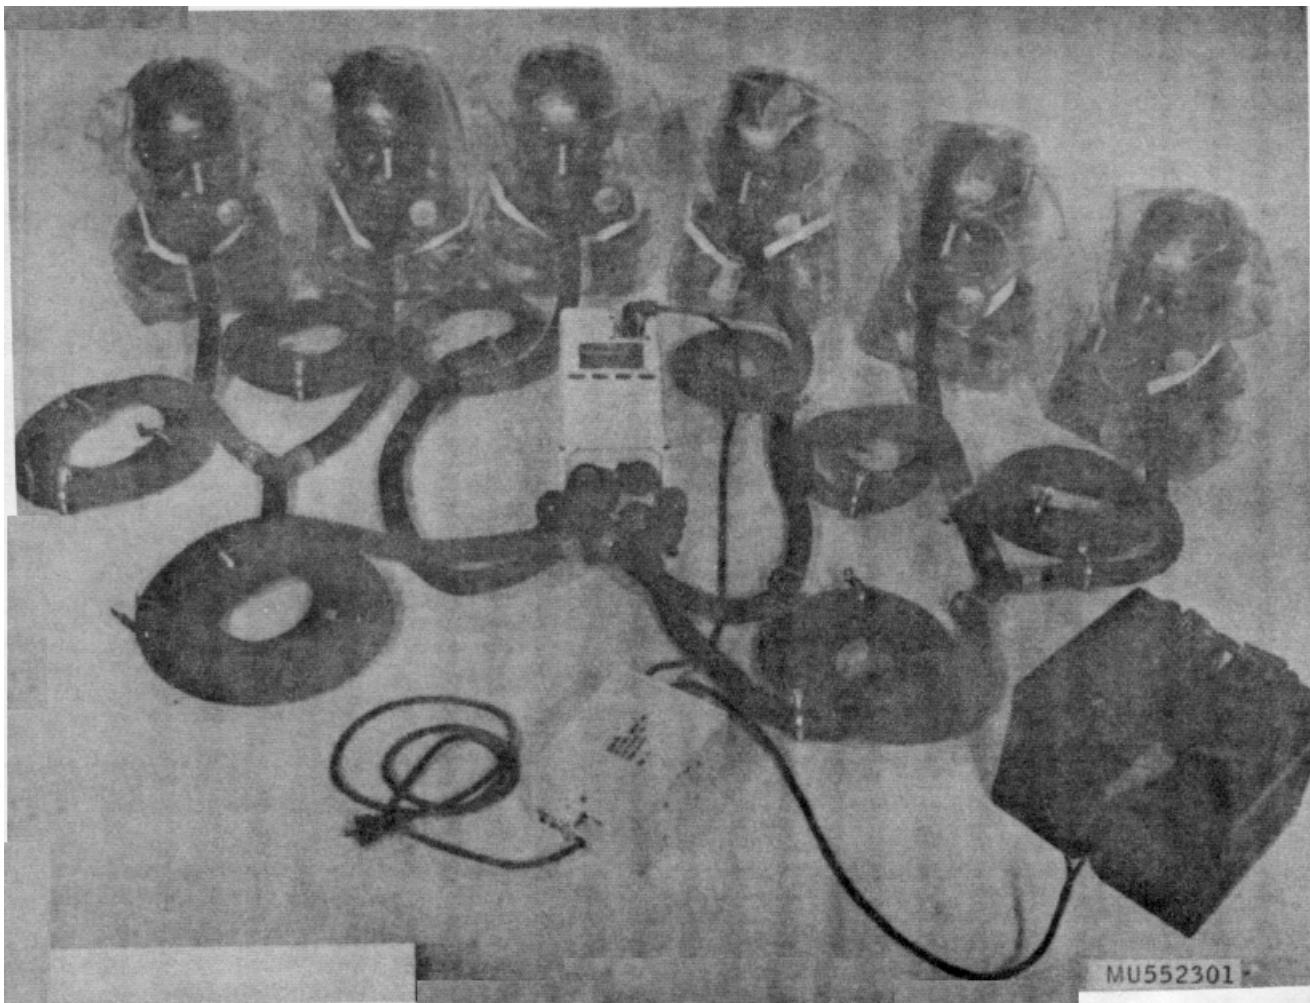
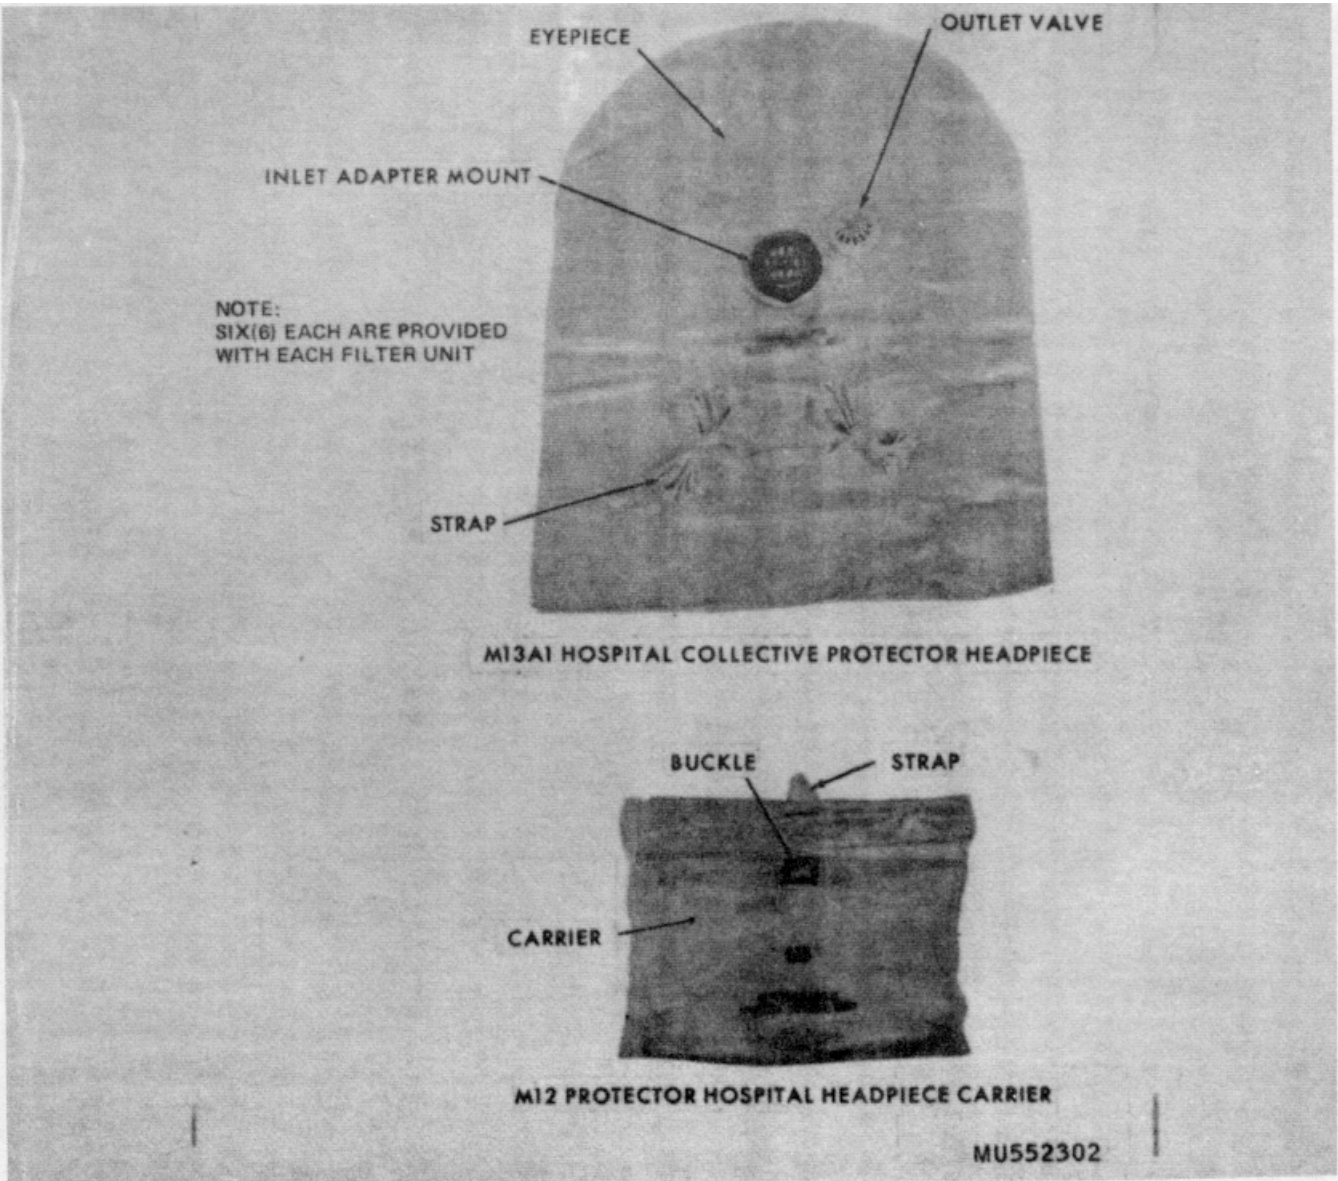

Figure 1-1. ABC-M7A1 12 CFM six-man hospital gas-particulate filter unit.
Figure 1-2. Headpiece
These instructions are for use by operator, organizational, and direct support maintenance. They apply to the Filter Unit, Gas-Particulate, Hospital, Six-Man, 12 CFM, ABC-M7A1. Hereinafter this equipment will be referred to as filter unit (fig. 1-1). The battery and jumper GENERAL shown in figure 1-1 are not issued
b. *Headpiece.* The headpiece (fig. 1-2) consists of six M13A1 hospital filter unit headpieces and six M12 hospital filter unit headpiece carriers. The headpiece carrier is a plastic bag equipped with a buckle and a strap. When the headpiece is inside the carrier, the carrier is folded on the marked lines, rolled tightly, and fastened with the strap and buckle. The headpiece is a hood that fits loosely over the patient's head. The plastic headpiece consists of the hood, inlet adapter mount, outlet valve, eyepiece, and strap. The strap provides the means for fastening the headpiece around the neck of the patient as shown in figure 1-1.